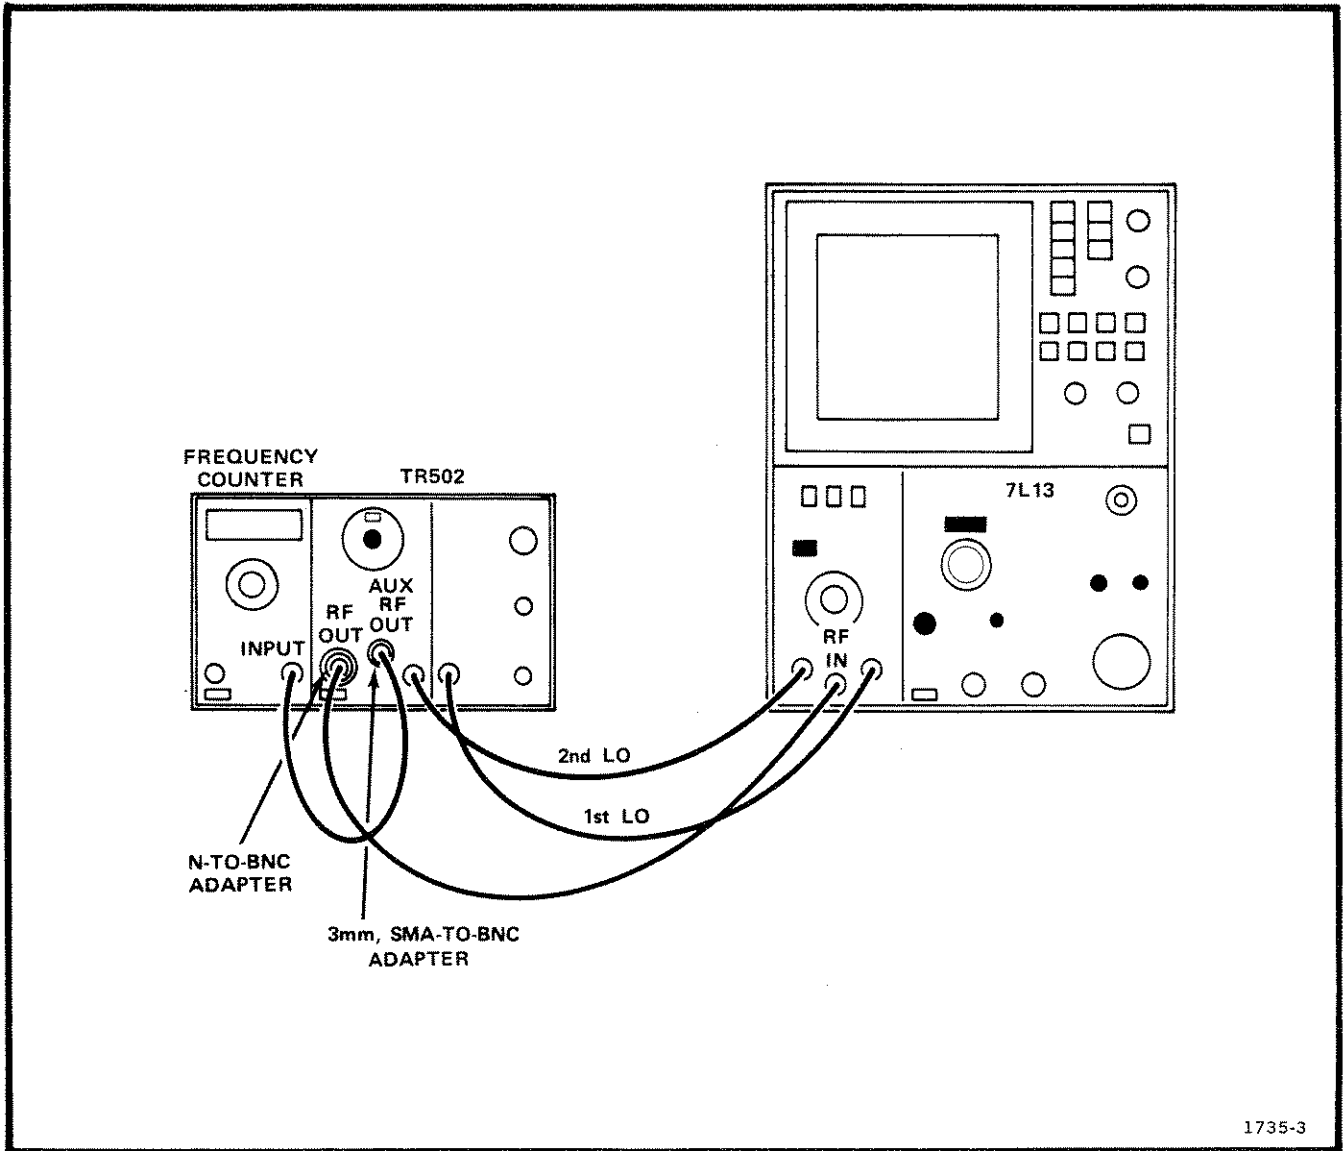

Fig. 2-1. TR 502/7L13 Spectrum Analyzer System with a Frequency Counter.
b. Using the coaxial cables, supplied with the standard accessories, connect the 1st and 2nd LO Output ports of the spectrum analyzer to the 1st and 2nd LO INput ports of the TR 502, then connect the RF OUT to the RF Input of the spectrum analyzer. If a frequency counter is used, connect the AUX RF OUTput of the TR 502 to the RF Input of the counter. Fig. 2-1 illustrates system hookup.